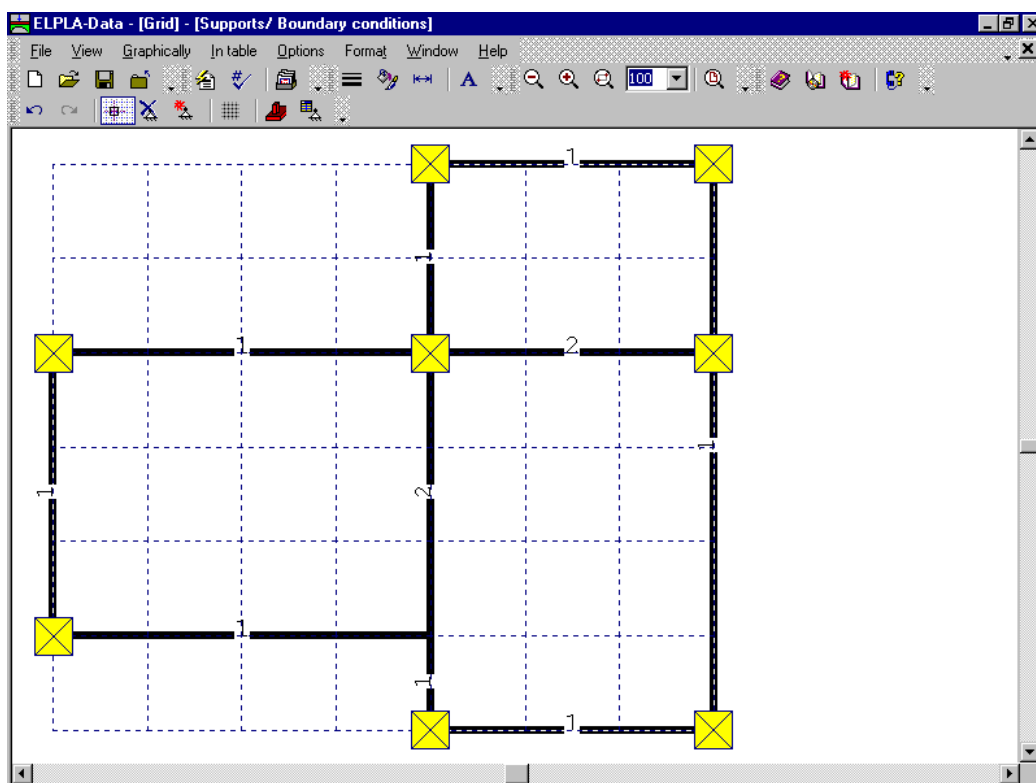

Figure 4-23 Supports on the screen
ELPLA can calculate the punching stresses due to column reactions. In this example data corresponding to column dimensions are not required. Therefore the user can take these data from the default column dimensions and consider all supports have column type 1. After you have completed the definition of supports, the screen should look like the following Figure 4-23.
- Choose "Save supports/ Boundary conditions" command from "File" menu in Figure 4-23 to save the data of supports
- Choose "Close supports/ Boundary conditions" command from "File" menu in Figure 4-23 to close the "Supports/ Boundary conditions" embedded program and to return to the main window of *ELPLA-Data*